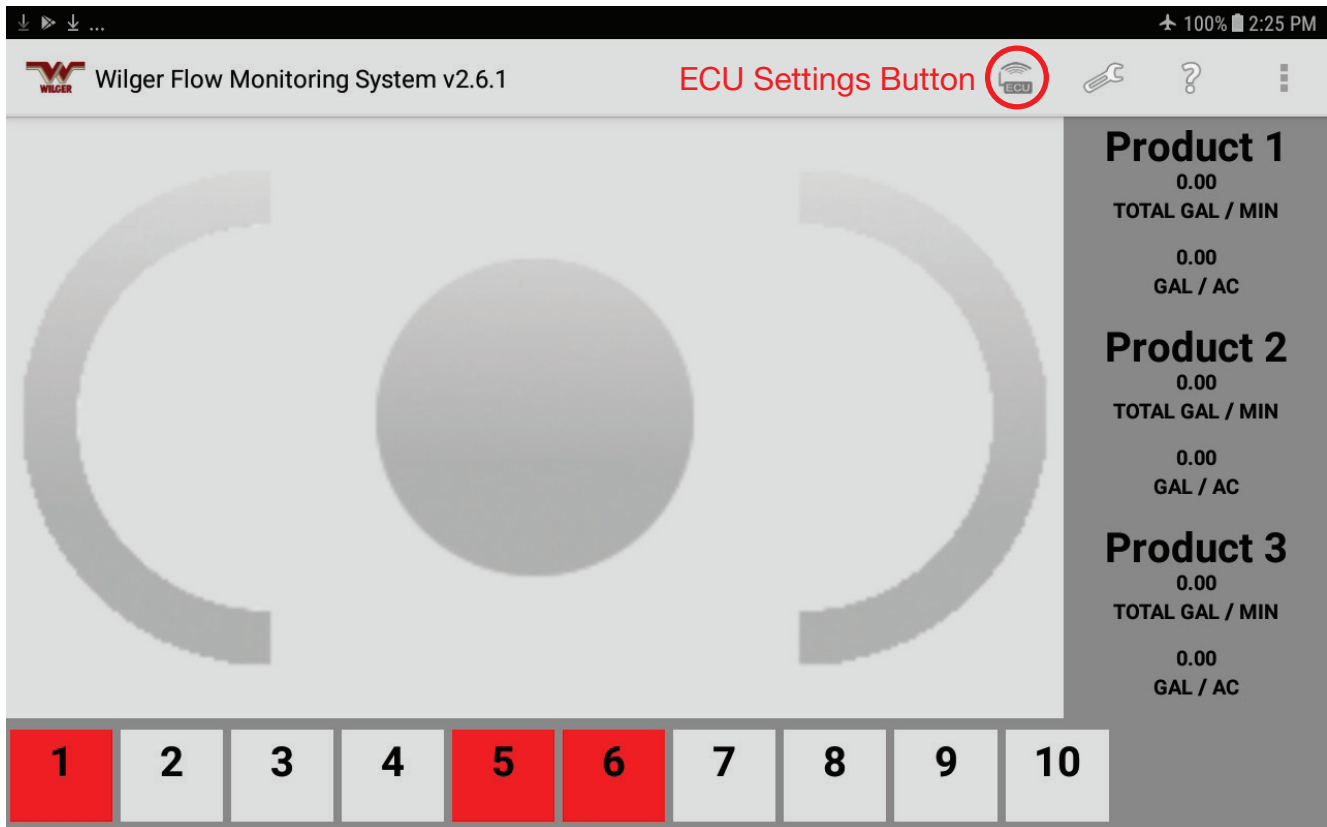

Figure 25. No ECU Connectivity.
3. On the Main Overview screen, tap the ECU Main Settings  icon. (See Figure 25).
1. On the Main Overview screen, tap the Sensor Settings icon. (See Figure 25) The Sensor Setup page #1 appears.